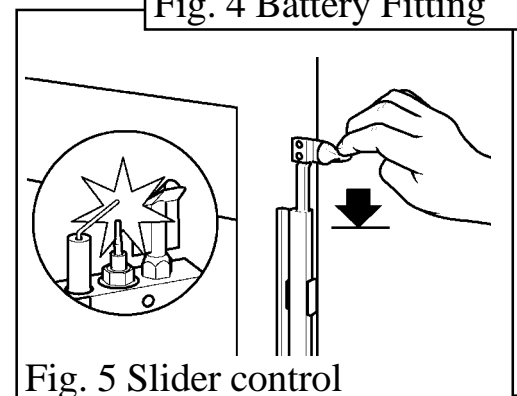

Fig. 5 Slider control
3.2.2 Depress the slider as far as it will go. This should close the ignition circuit. Sparks should be seen tracking from the electrode pin to the thermocouple tip. See figure 5.
6.2.2 Depress the slider knob as far as it will go and hold in this position (see section 3.2.2 and figure 5). This should close the ignition circuit and (now that the gas is connected) simultaneously open the gas tap allowing the gas to flow to the pilot. Wait a few seconds while the air is purged. The electronically generated sparks should light the pilot. The pilot should then light the main burner at its low setting. There may be a delay of up to four seconds between the pilot lighting and ignition of the gas at the main burner. This is normal and is due to the time required to fill the main burner compartment with sufficient gas for ignition.